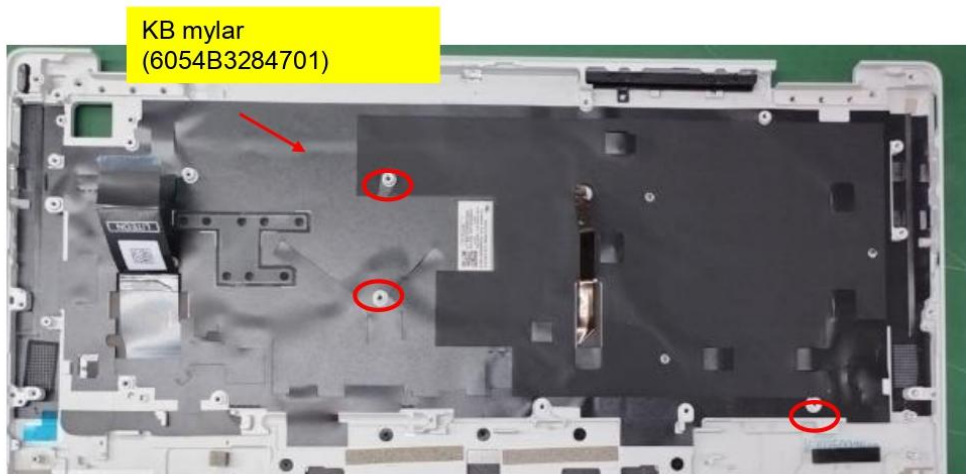

Figure 1
1. Take Mylar (6054B3284701) (Figure 1)